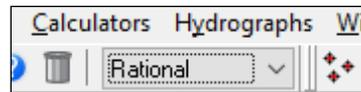

Figure 6 Rational model selected
1. Select "Rational" from the *Model* drop-down (Figure 6).